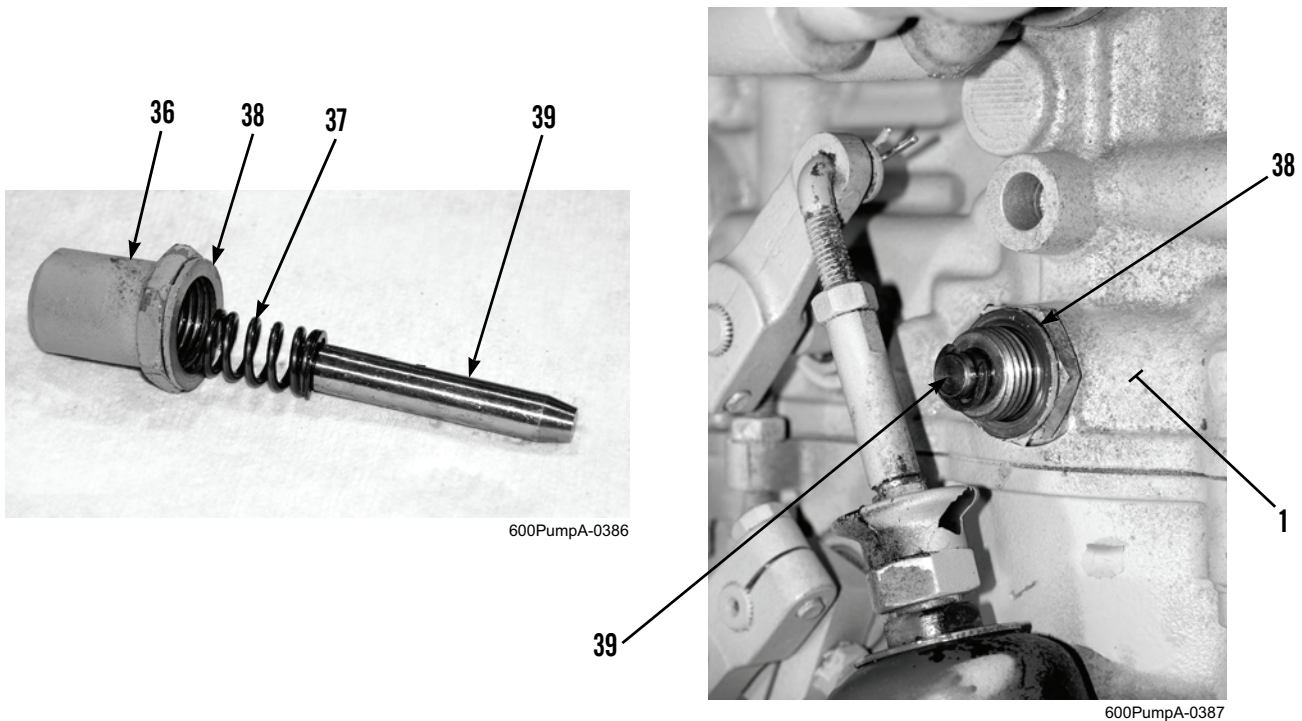

Figure 18. Installing Positioning Pin (Locked Position).
7. Install copper sealing ring (Figure 18, Item 38), position compression spring (Figure 18, Item 37) on top of positioning pin (Figure 18, Item 39) and secure with bolt sleeve (Figure 18, Item 36). This holds positioning pin into fuel injection pump camshaft and allows fuel injection pump timing to be set correctly.